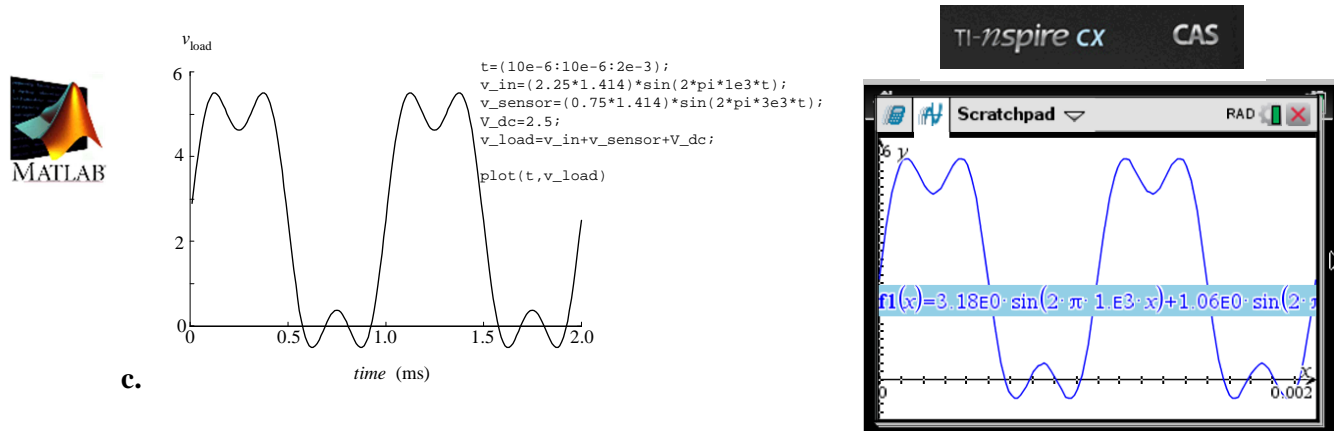

Figure 2-17 Plot and MATLAB commands for Example 2-4
- The plot of this composite wave is shown in Figure 2-17. It looks much more like a square wave than a sine. Certainly just adding $2.25 V_{\text{rms}} + 0.75 V_{\text{rms}} + 2.5 V_{\text{dc}} = 5.5 \text{ V}$ gives an entirely incorrect result.